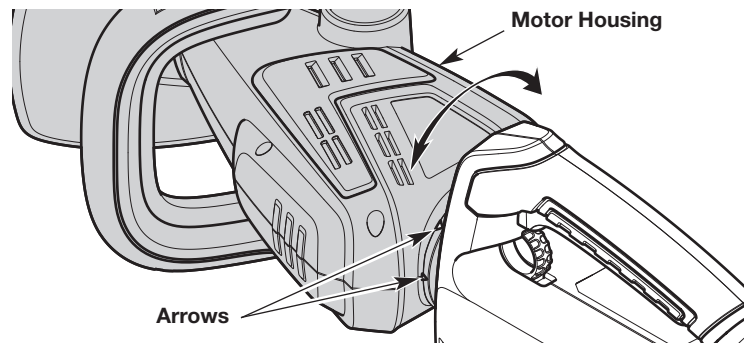

Fig. 11
2. Rotate the motor housing to the desired angle. There are several predefined positions. Each position is marked by an arrow (Fig. 11).